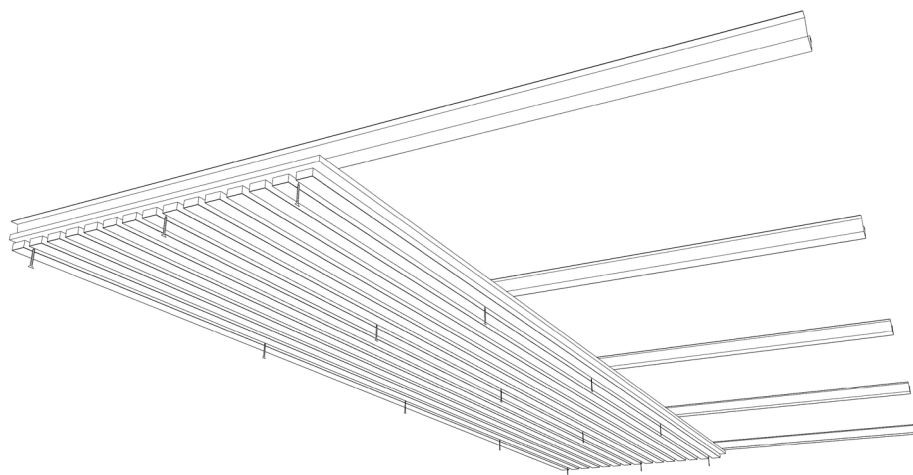

Figure 3. Direct fixing of a HARMONY panel with screws onto a suspension system.
For direct screw fixing, it is recommended to use #6 double-threaded drywall screws, 1-5/8" long, positioned between the wood planks. Fifteen (15) screws per panel are recommended (**Fig. 3**). Depending on the color of the acoustic backing selected, the screw color should match the backing color.